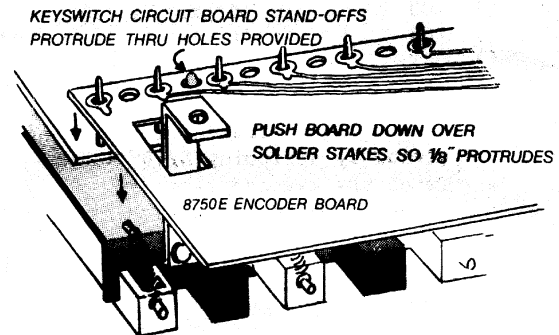

Figure 3: Encoder Circuit Board Installation Detail
- ( ) Carefully mount the previously assembled encoder board to the keyboard by first passing the rectangular cut-outs in the encoder circuit board over the "L" bracket mounting legs of the keyboard. Align the holes in the solder pads along the edge of the encoder board with the solder stakes protruding from the keyboard. Push the encoder board down onto these stakes so that approximately 1/8" (3 mm) protrudes beyond the surface of the board. DO NOT ATTEMPT TO PUSH THE ENCODER BOARD DOWN ALL THE WAY. (see fig. 3)